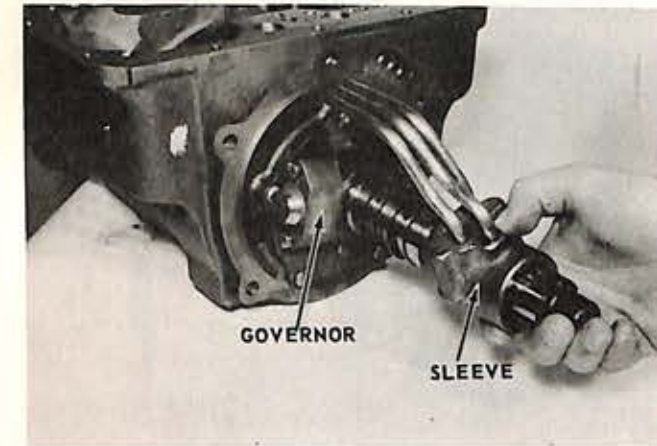

Fig. 44
1. Remove the distributor and tubes from the transmission (Fig. 44).